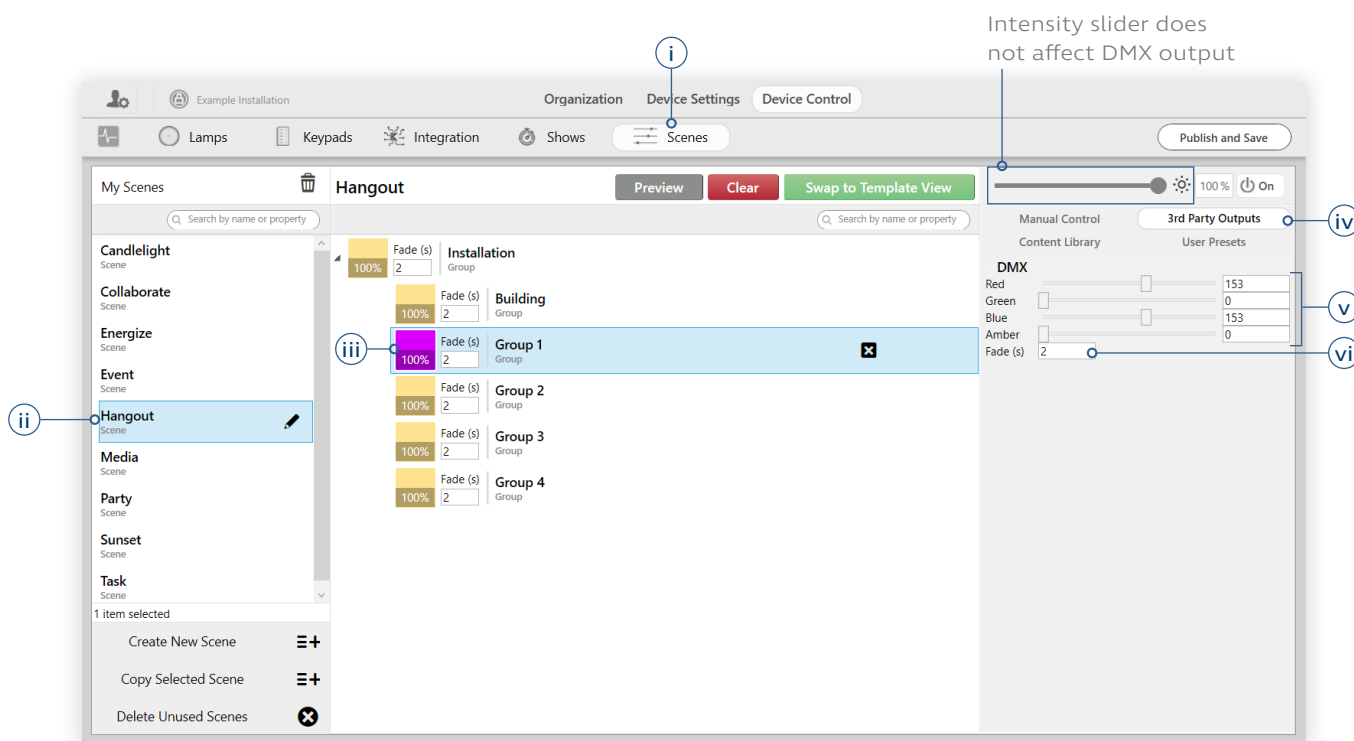

fig. 162
3 Customize the DMX outputs in scenes (See fig. 162)
Example: In fig. 162, when a user triggers the **Hangout** scene, the N3 Satellite will output the values 153, 0, 153, and 0 on channels 7-10 (since **Group 1** contains the output "RGBA chs. 7-10"). The receiving devices should be configured to interpret data from those channels as red, green, blue, and amber, respectively.
- vi Configure the number of seconds it will take the selected output's corresponding receivers to transition to the scene. This is done using the "Fade" text field. **Example:** In fig. 162, when a user triggers the **Hangout** scene, the receiving devices will transition from their current state to their **Hangout** state over the course of 2 seconds.